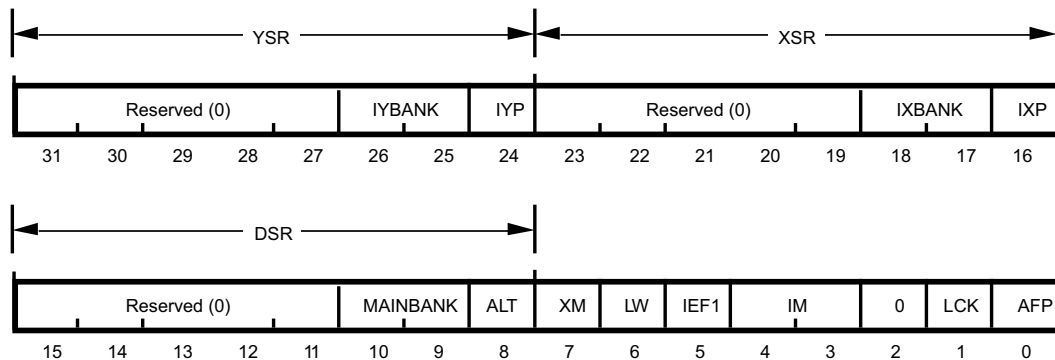

Figure 34. Select Register
The CPU control register space consists of the 32-bit Select Register (SR), Figure 34. The SR may be accessed as a whole or the upper three bytes of the SR may be accessed individually as the YSR, XSR, and DSR. In addition, these upper three bytes can be loaded with the same byte value. The SR may also be PUSHed and POPed and is cleared to all zeros on Reset.
The Select Register (SR) controls the register set selection and the operating modes of the Z380 CPU. The reserved bits in the SR are for future expansion; they will always read as zeros and should be written with zeros for future compatibility. The SR is shown in Figure 34.